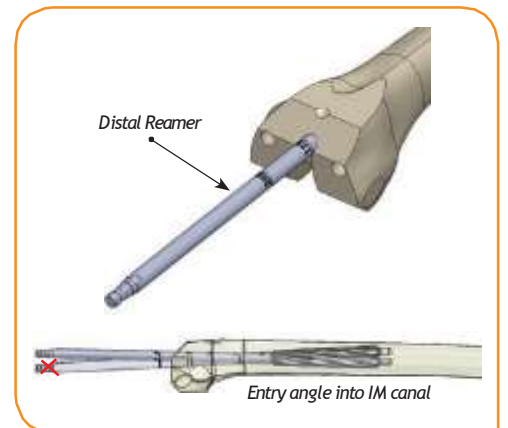

Figure F2: Reaming IM canal
Consult Table A at right to determine the reamer depth marking corresponding to the stem extension to be implanted. Ream the intramedullary (IM) canal with a sharp-tipped **distal reamer** (ø6.5mm or ø9mm). Ream angled anteriorly and until the appropriate depth marking reaches the distal surface of the femur (Fig. F2). (Be sure to reduce this reaming depth accordingly if the distal face will be augmented.) Progressively increase reamer diameter in 0.5mm increments until the desired cortical bone contact is achieved. The ultimate distal reamer and stem implant diameters should match when uncemented. If cementing the stem, the reamer diameter should be 0.5mm or 1mm larger than that of the stem.